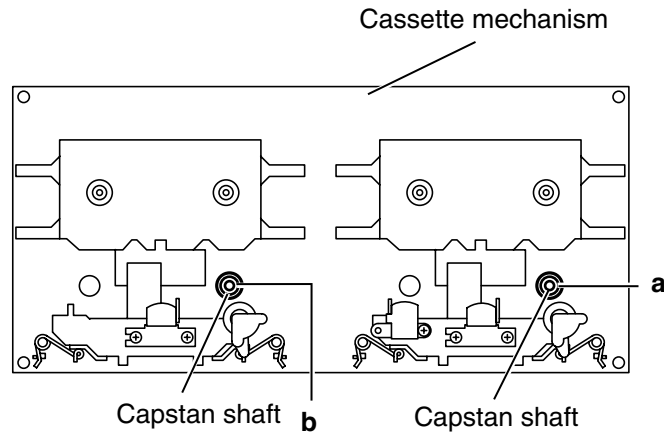

Fig.5
■ **Removing the flywheel. (Fig.5 to 7)**